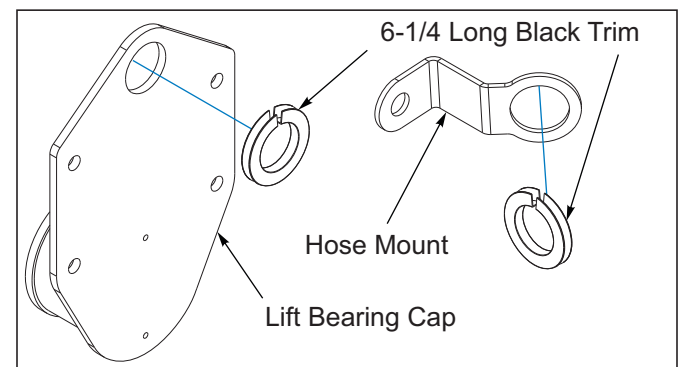

Figure 3-10: Trim Installation
8. Install a 6-1/4" long piece of black trim in the top hole of the lift bearing caps. Outer wing bearing caps do not require trim. Route rear fold and lift hydraulic hoses through bearing caps between frame sections *See Figure 3-10*. Install a 6-1/4" long piece of black trim in the hole of the hose mounts *See Figure 3-10*.